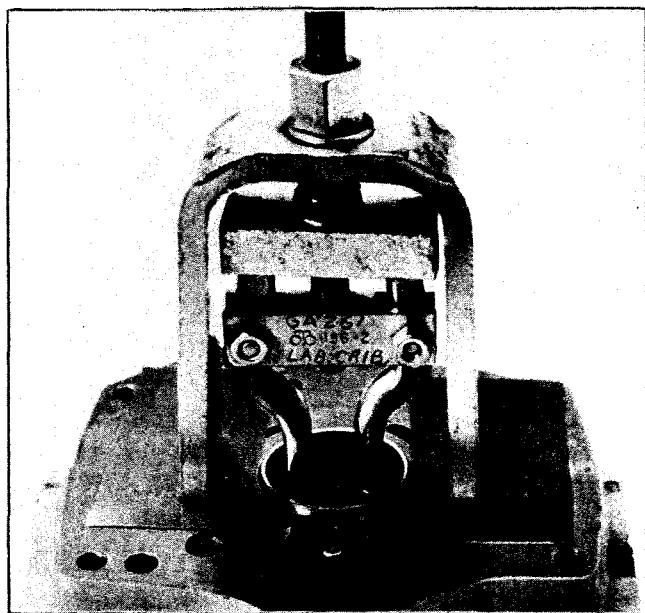
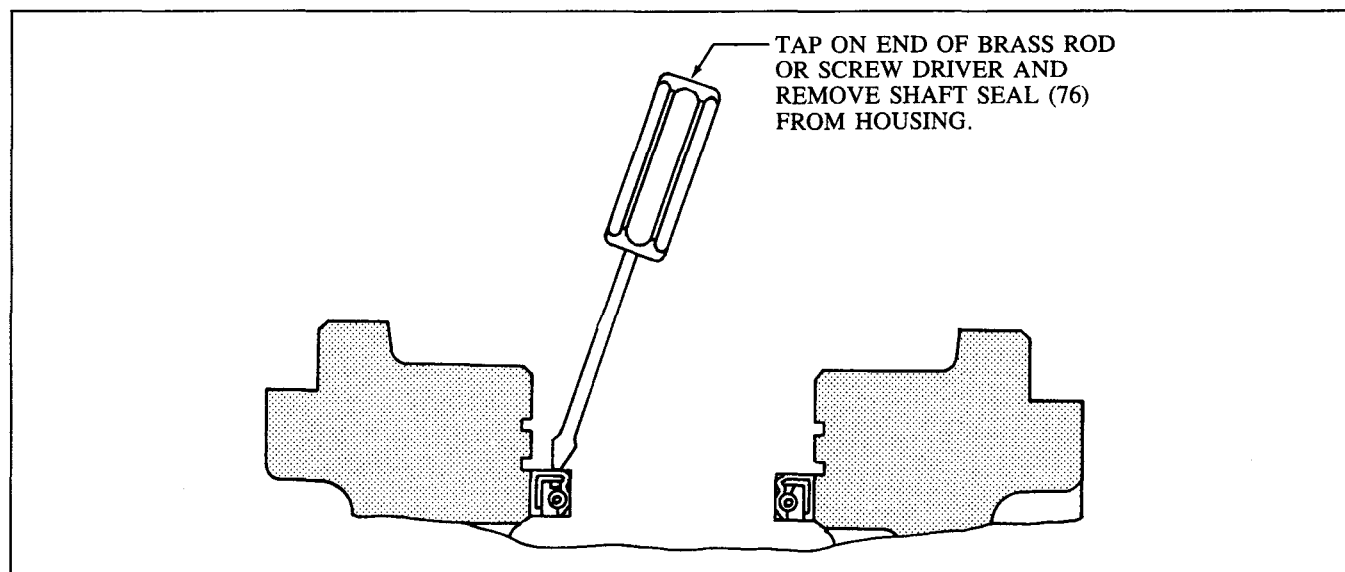

Figure 10. Removal of Bearing Race (48) from Valve Block (33).
Figure 12. Shaft Seal (76) Removal.
1. Remove roller bearing (74) from housing (77).
2. Inspect roller bearings (48 and 74) for pitting and cracks. Turn roller bearings in their associated bearing race and check for roughness and bind. The roller bearings must turn freely within the bearing race with no signs of bind. If a roller bearing shows evidence of bind, wash the bearing in a clean solvent and recheck for bind. If binding persists, replace the roller bearing and bearing race. Refer to Figures 10 and 11 for the bearing race removal procedure.
3. Remove retaining ring (75) from housing (77) with Truarc pliers.
4. Remove shaft seal (76) from housing (77). Refer to Figure 12 for instructions.
1. Inspect valve block (33) for erosion, cracks, and burrs. Clean up minor burrs with an India stone. If erosion or cracks are noted, replace the valve block.
2. Inspect roller bearing and bearing race (48) for nicks and pitting. Make sure the roller bearing turns freely within the bearing race. If the roller bearing needs replacement, both the roller bearing and the bearing race must be replaced. To remove bearing race from valve block, refer to Figure 10.
3. Inspect valve plate (34) for erosion, excessive wear, heavy scratches, and cracks. If any of the above conditions are found, replace the valve plate.